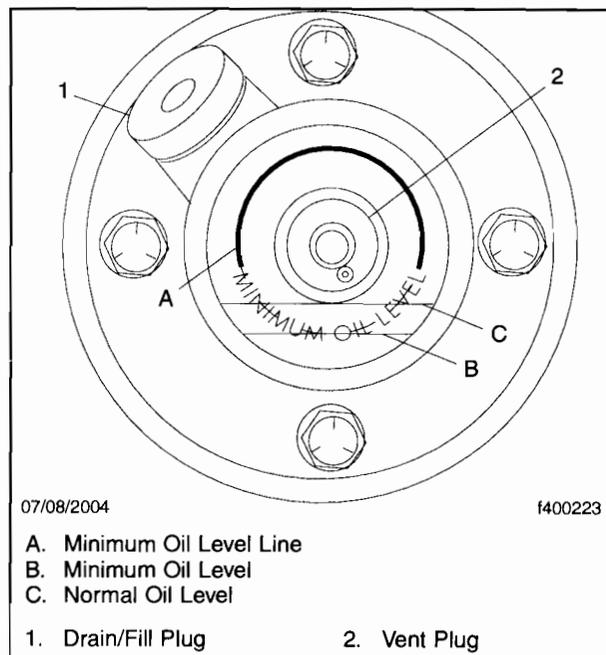

Fig. 7, Hub Oil Levels
- 34.3 Add enough oil (about 2 oz or 60 ml) to the hub to bring the level up to the bottom of the vent cap. See **Fig. 7**.
- 34.5 Once the oil level has stabilized in the hub cap, check the level in the window and if needed, add enough oil to bring the level up to the bottom of the vent plug. See **Fig. 7**.